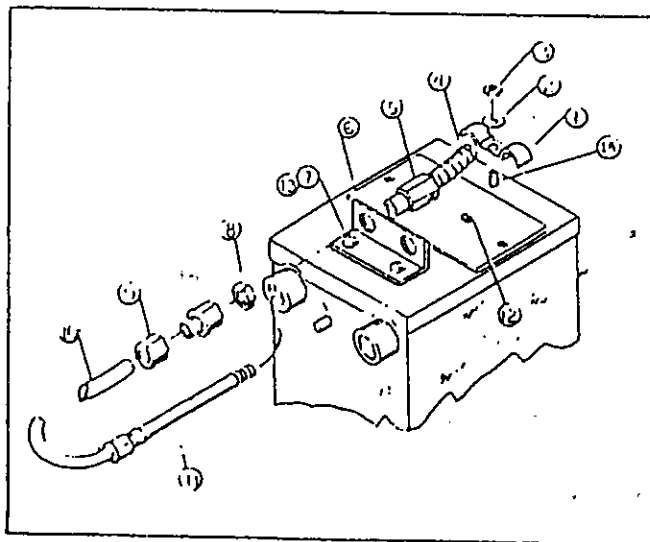

Figure 2-1 Connecting Shielded Cable to "L" Bracket on Power Unit
Ionizing air guns and some Type HS Nozzles with shielded cable are shipped with all connections completed by the factory. These units use a mounting arrangement on the power unit as shown in Figure 2-1. If equipment using this mounting configuration has not been connected at the factory, it must be connected by the user as described below.
- Refer to Figure 2-1. Insert the end of the high voltage cable through the angle bracket (item 6) on the power unit.
- Install and tighten hex nut (item 8).
- Install male half of nylon compression fitting (item 9) as shown, and tighten securely onto the hex bushing (item 5).
- Install and tighten female half of the compression fitting (item 9).
- Install the spring loaded connector (item 11) on the high voltage cable as described in Section 2-4.
- Install strain relief clamp (items 1, 2, 3).
- Refer to Figure 2-1 and remove hex nut (item 3) and remove cable clamp (item 1).
- Unscrew spring loaded connector (item 11) and remove from high voltage output terminal.
- Unscrew nylon compression fitting (item 9) and remove both halves of the fitting. The protective sleeve (item 10) should remain on the cable.
- Remove hex nut (item 8). The entire cable assembly may now be removed from the power unit.